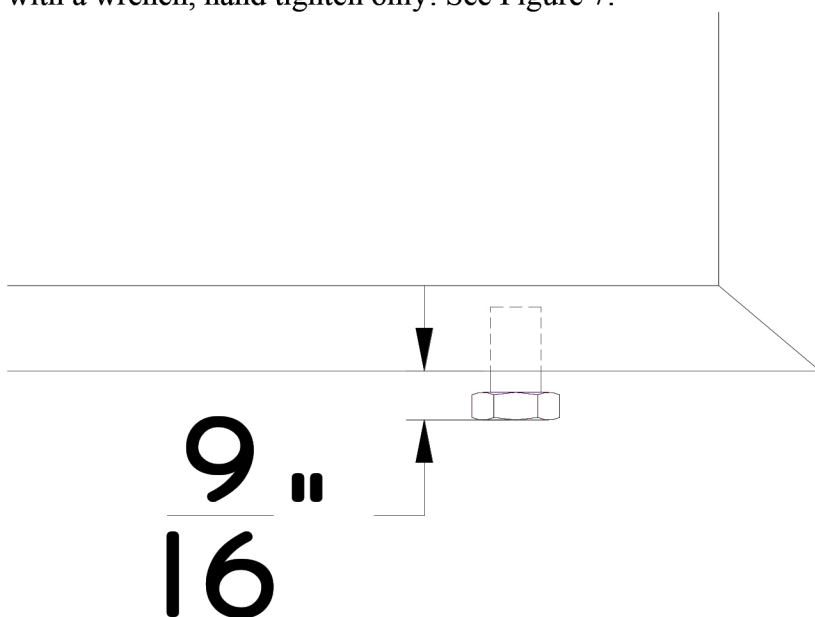

Figure 7.
8. Leave the bolts extending out of the plug approximately 9/16" as shown. Do not tighten them with a wrench, hand tighten only! See Figure 7.